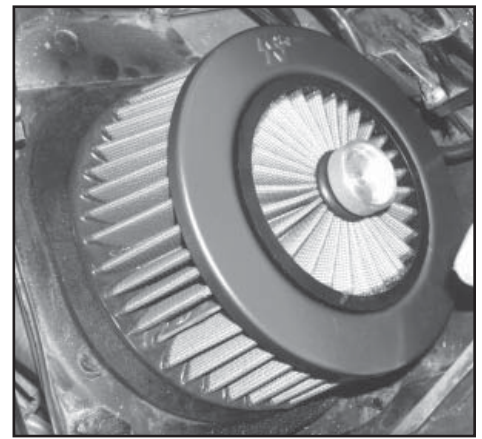

Fig. 3
6. Install the custom bolt assembly and tighten. (Fig. 3)